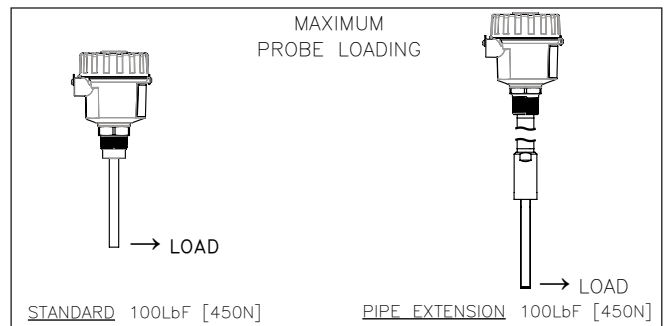

Figure 3
- 4) Dynamic Material Flow:** Please consider the maximum limits of bending force as shown in Figure 3 when choosing a mounting location and installing the **VibraRod** level sensor.